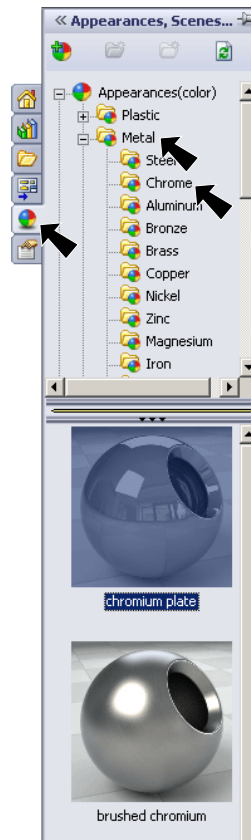

Fig. 19
Step 4. Over at the Task pane, click the Appearances Task tab , expand **Metal** and click **Chrome** and in the lower pane select **chromium plate**, Fig. 19